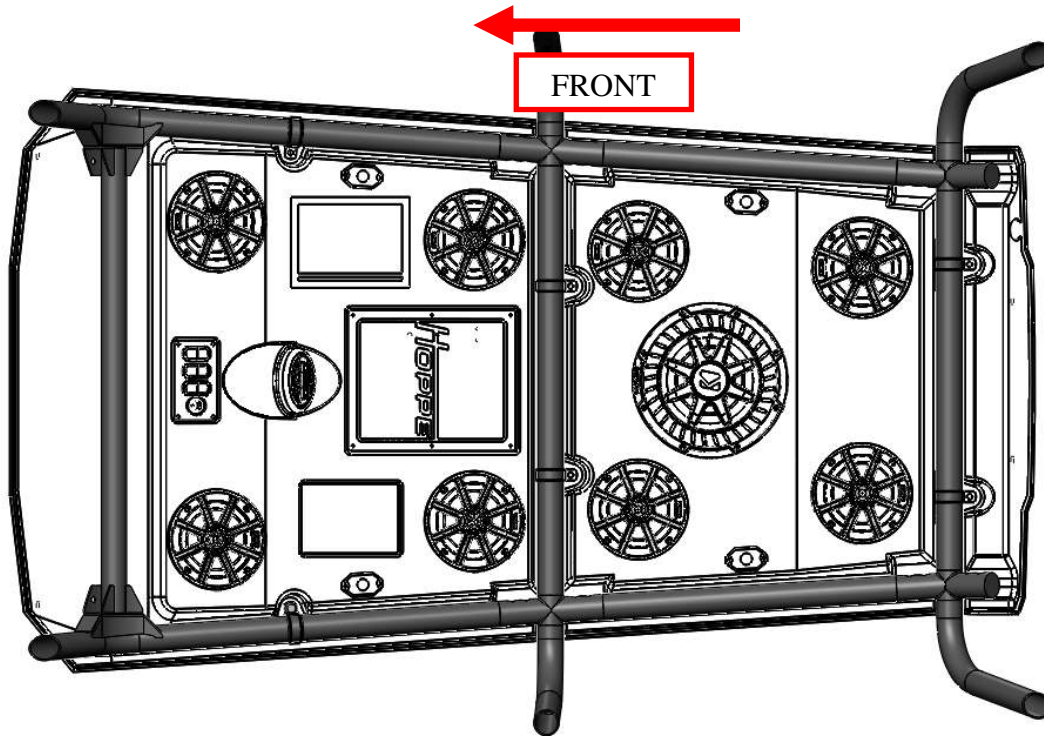

Figure 5: Install the top on the cage.
3. Using a few assistants, set the *Audio Shade* off-road top on the cage. The top is contoured such that the cage fits inside the grooves on the top. **Note: The top weighs up to 140 lbs. depending on your configuration. Since you will have to lift and reach, it is helpful to have up to 4 people for this step. See Figure 5.**